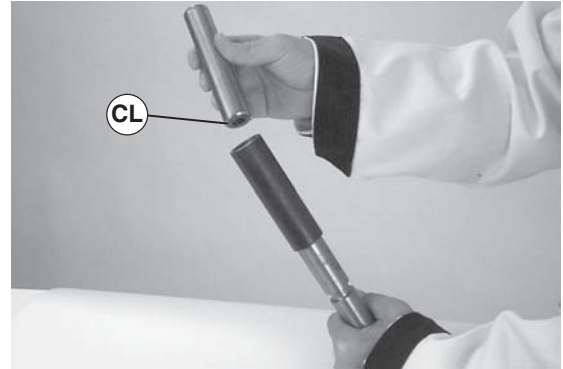

Figure 46
- Place open end of shaft (Figure 46, item CL) into sleeve.